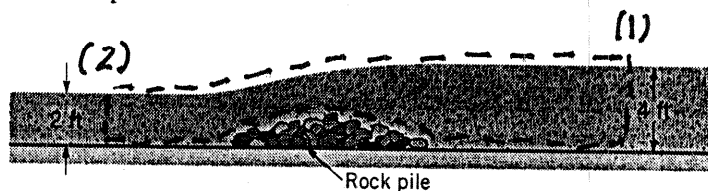

FIGURE P5.87
5.87 A 100-ft-wide river with a flowrate of $2400 \text{ ft}^3/\text{s}$ flows over a rock pile as shown in Fig. P5.87. Determine the direction of flow and the head loss associated with the flow across the rock pile.